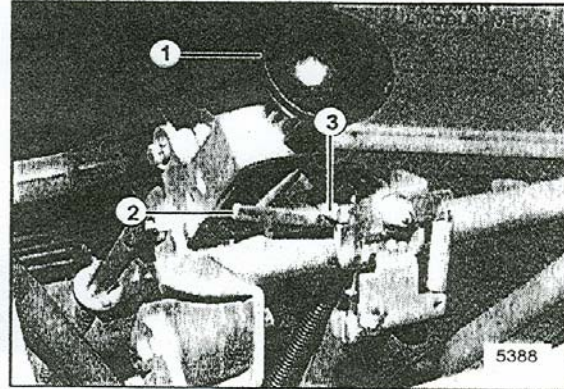

FIGURE 22
- Adjust cable until the pivot arm contacts the arm extending from the operator presence switch (see Figure 22).